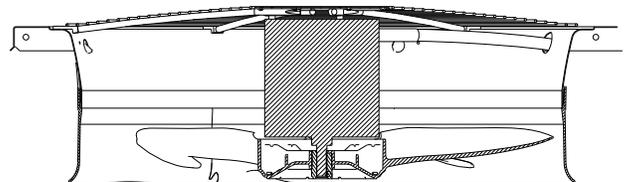

Fig. 35 – Condenser Fan Adjustment
2. Remove condenser-fan assembly (grille, motor, and fan). (See Fig. 35.)